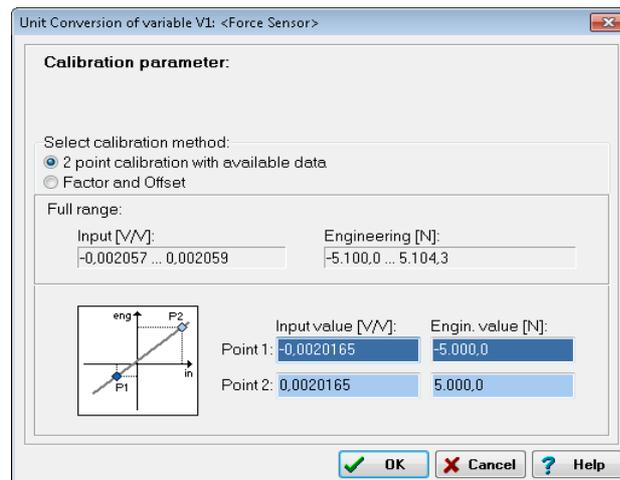

Fig. 7-6 Scaling dialog
3. Enter the transducer (sensor) data from the calibration certificate or from the data sheet (example: refer to Fig. 7-6 on page 102).